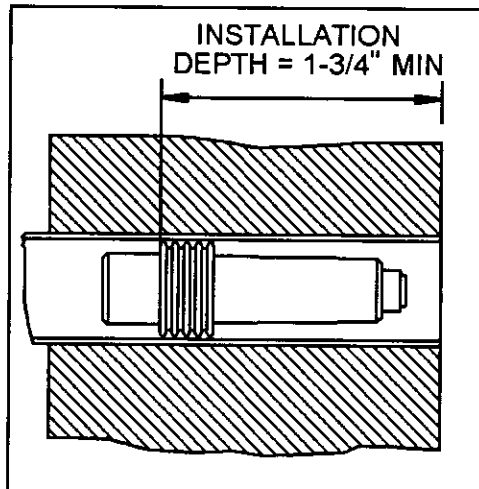

Figure 5
8.5.3.12 HOLD Ram AND INSERT Pop-A-Plug II into tube to a depth of 1-3/4" (See Figure 5).